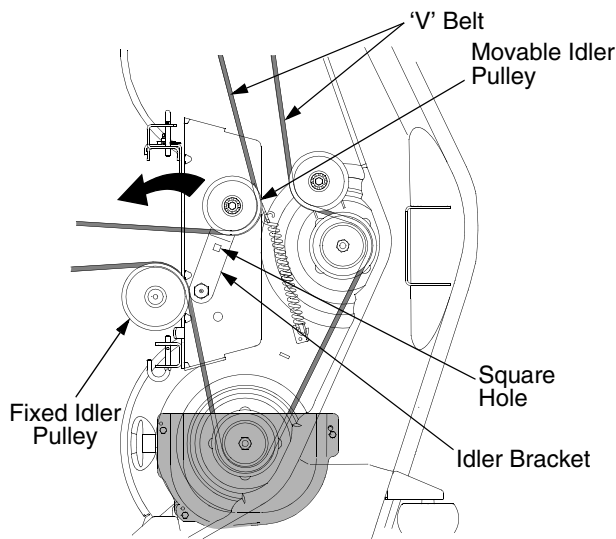

Figure 27
- From beneath the middle of the tractor, insert a 1/2 inch ratchet into the square hole of the deck idler bracket. Refer to Figure 27.
- Using the ratchet for leverage, pivot the idler bracket and movable idler pulley away from the backside of the 'V' belt; then lift the belt off of both the movable and fixed idler pulleys. See Figure 27.
- Route the backside of the belt around the fixed idler pulley of the deck. Refer to Figure 27.
- Insert a 1/2 inch ratchet into the square hole of the deck idler bracket. Refer to Figure 27.
- Using the ratchet for leverage, pivot the idler bracket rearward against the spring tension and slide the backside of the belt onto the movable idler pulley. Refer to Figure 27.